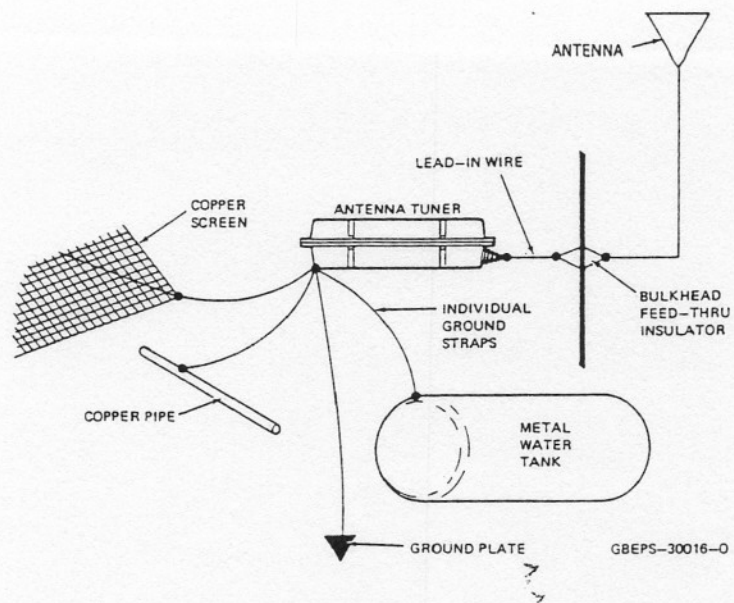

Figure 14.
(Refer to Figures 14 and 15.)
4.4 Wood and fiberglass vessels present more difficult grounding problems. Large ground straps are required to electrically bond equipment together, and an artificial ground plane must be created. Either of two methods is used to achieve the required ground plane: ground plates or screening. Ground plates or screening is installed inside the hull of the craft so that good electrical contact with the water is made through the capacitive effect of the hull (dielectric). At least 100 square feet of the area below the water line is recommended. Figure 14 shows an example of a ground system where a ground plate is placed on the inside of the hull of the vessel.